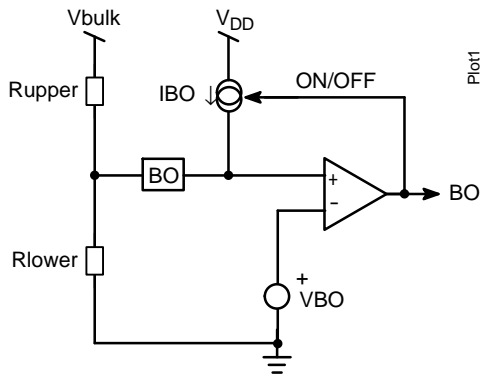

Figure 30a. The internal brown-out configuration with an offset current source.
Figure 30a, offers a way to observe the high-voltage (HV) rail. A resistive divider made of  $R_{upper}$  and  $R_{lower}$ , brings a portion of the HV rail on pin 3. Below the turn-on level, the 10  $\mu$ A current source IBO is off. Therefore, the turn-on level solely depends on the division ratio brought by the resistive divider.